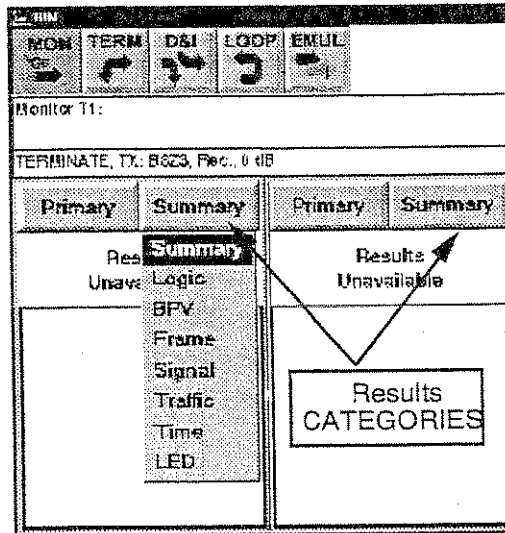

Figure 2-5. Pulldown List in Results CATEGORY
6. Results CATEGORY Display — The second button in this dual-feature display offers a drop-down list allowing the user to choose test results in numerous *categories*. Figure 2-5 shows some of the many selections available.